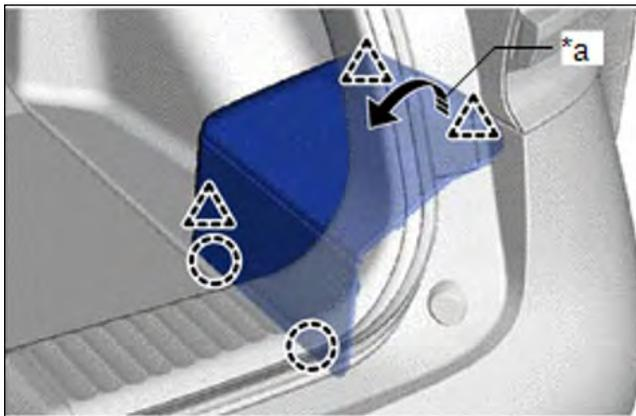

Figure 2d
- (c) Pull the handle to disengage the 3 clips and 2 claws and remove the battery service hole cover assembly, as shown in Figure 2d.